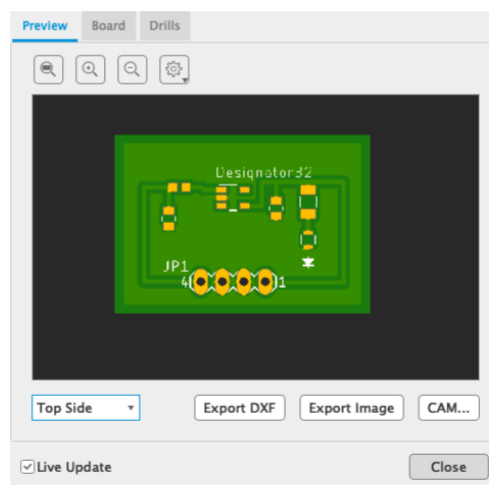

Figure 27: Manufacturer preview window
3.26: On the top bar there is a Manufacturing tab that allows you to obtain a preview of the board that will be built manufacturer of your choice (Figure 27).